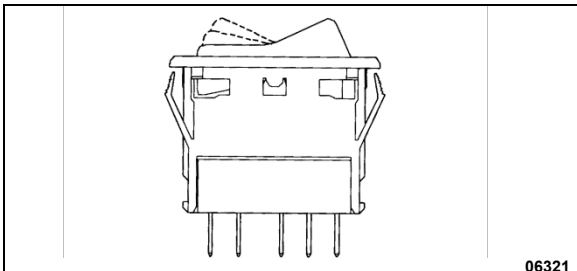

FIGURE 98: SWITCH
3. To install a new switch, reverse the procedure (Figure 98)